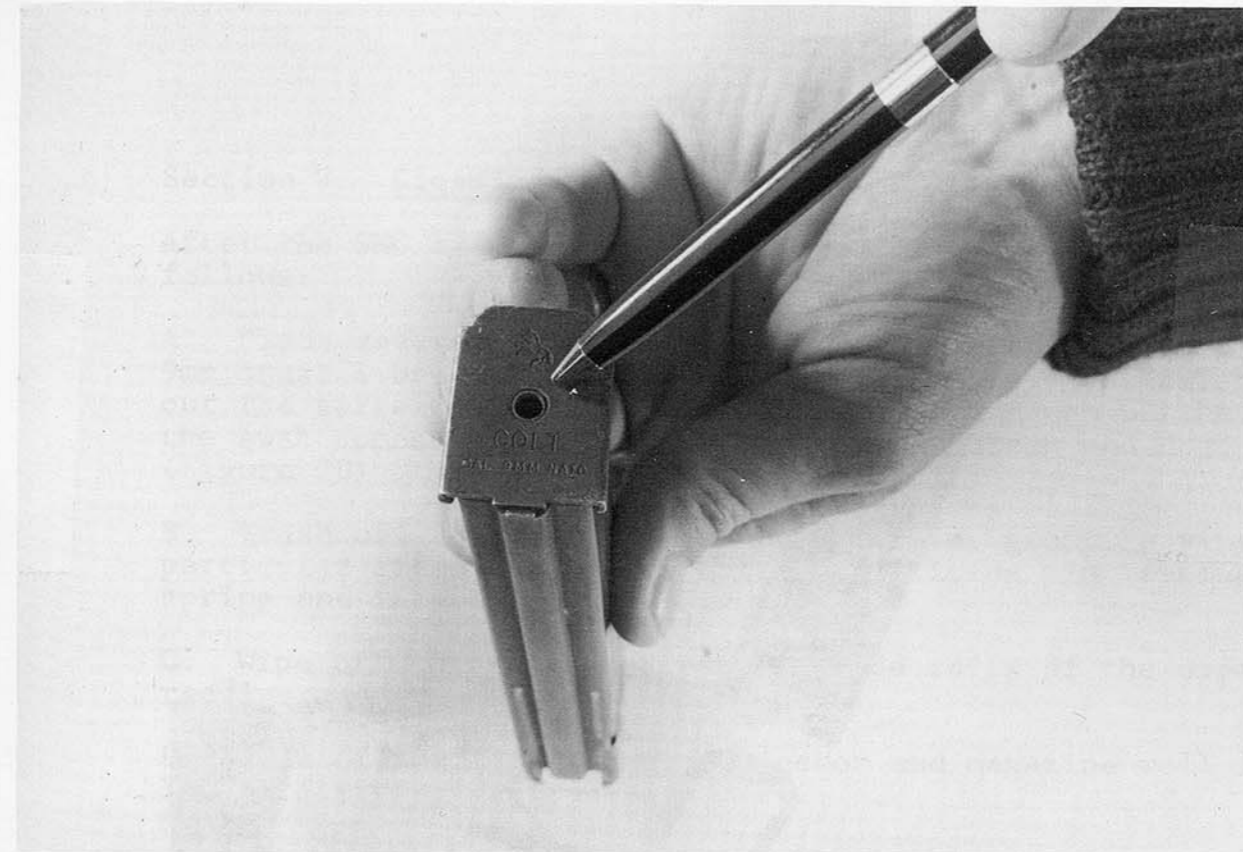

Figure 19A. Depress Center Role on Magazine Base
1. Depress center hole on base of magazine Figure 19A
(Figures 19a, b, & c)